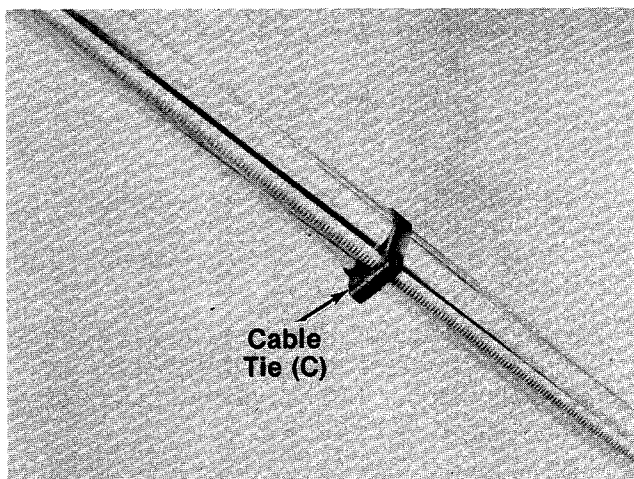

FIGURE 5.
- ← 6. Secure throttle and clutch control wires to upper and lower handles with cable ties (C). See figure 5.